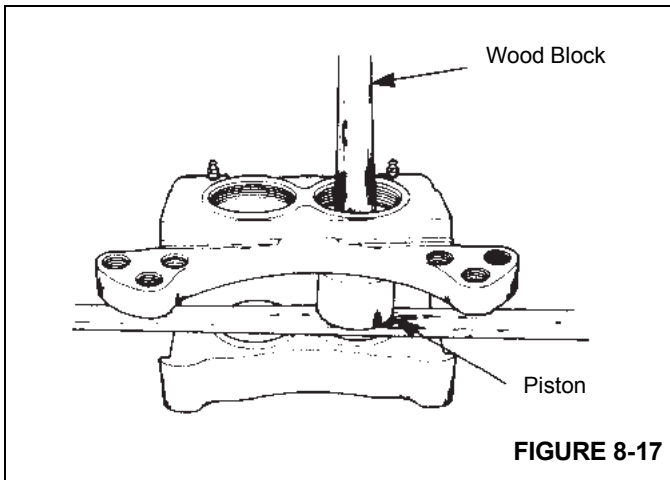

FIGURE 8-17
8. Remove the pistons from the mounting plate side of the housing. Push on the ends of the pistons to force them out of the disc side of the housing (Figure 8-17).